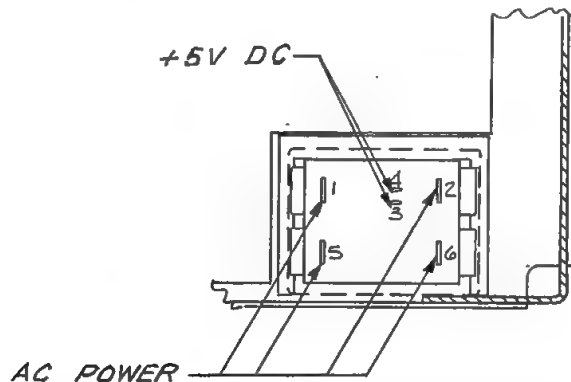

Figure 4-6. AC Switch Rear View
- Unplug the connector wires on the back of the switch, see Figure 4-6.